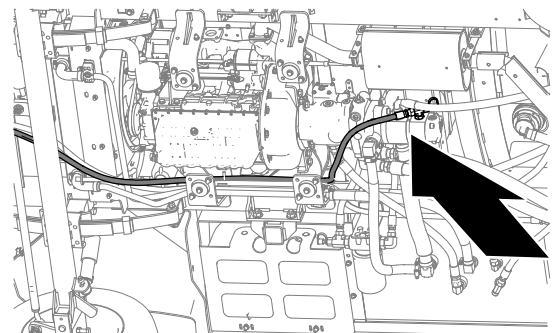

**Figure 58**
3. Remove the return hose for the steering valve from the machine (Figure 58).